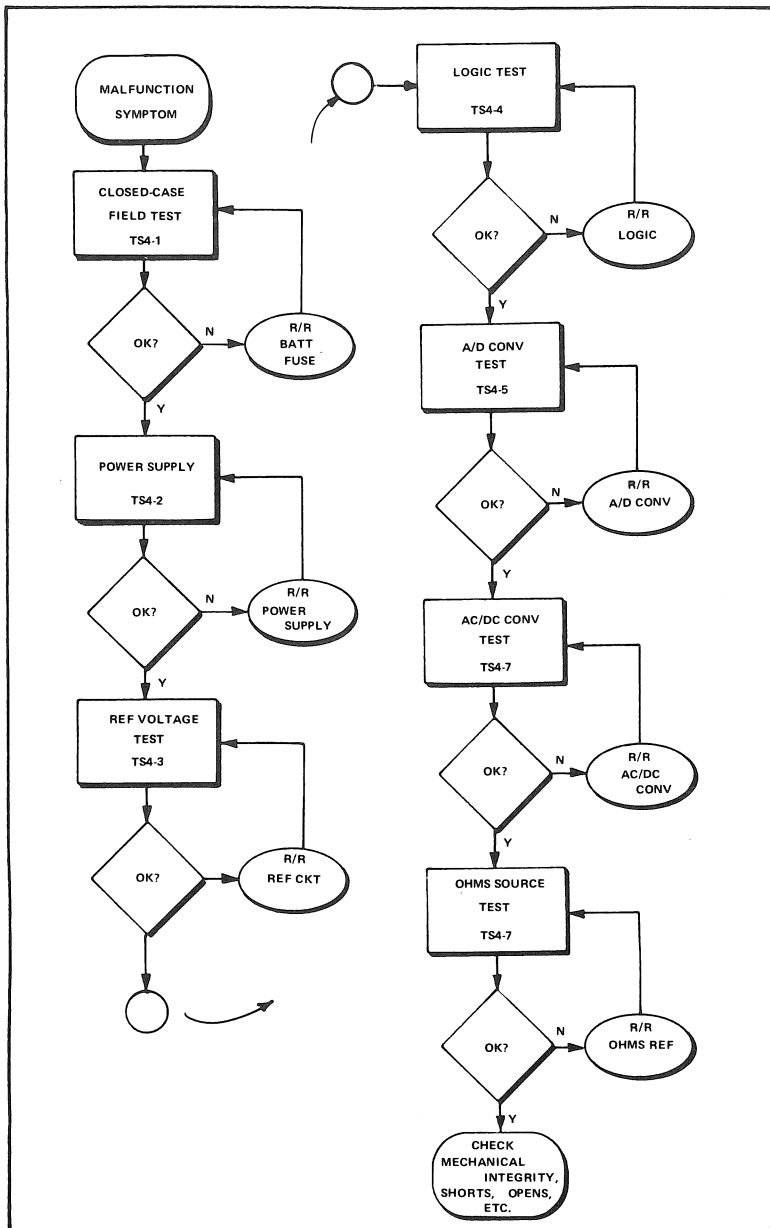
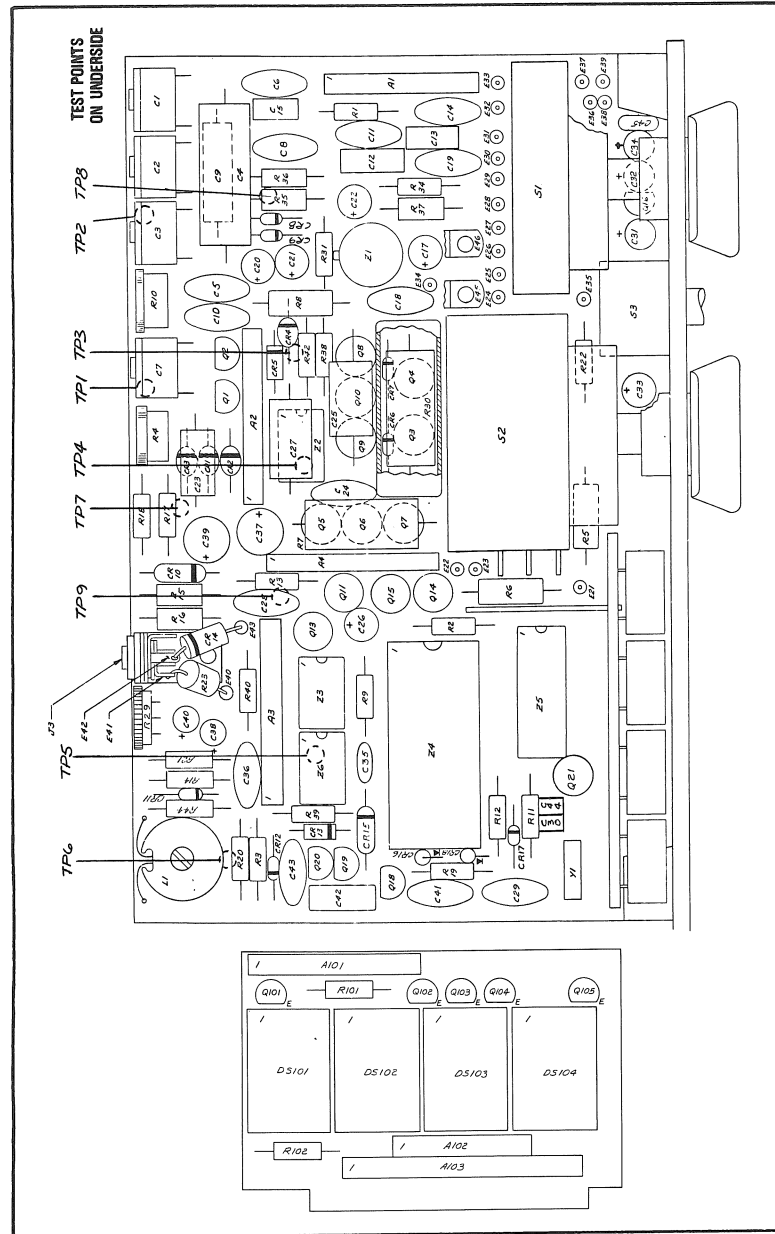

Fig. 4-1. Trouble Shooting Strategy
Fig. 4-2. Assembly Parts and Test Points
Should the meter performance indicate a possible need for repair, a well-defined strategy should be used to isolate the cause of trouble. This is illustrated in Figure 4-1. It indicates a sequence of steps in terms of standard symbols and defines a program of actions based on a philosophy of positive maintenance. The positive approach isolates to the faulty sections by verifying proper operation of the remaining instrument sections.
The test sequences identified in the chart of Figure 4-1 are described in step-by-step detail in the paragraphs that follow. In performing the tests detailed in these paragraphs, the maintenance technician is directed to make measurements at designated test points which have been placed at significant portions in the circuit. The special test points are identified by TP- and E-reference numbers, and their locations on the printed circuit board are shown in Figure 4-2. Other test points designated in the test procedure paragraphs may be pin terminals of circuit components, and technicians should refer to component data sheets for the pin terminal locations as well as to Figure 4-2. Use caution in attaching test leads to avoid accidental shorting of adjacent components. The use of EZ Mini Hook^R, or equivalent is suggested to aid in making good connections.
If the multimeter does not perform correctly after the tests of TS4-1 are satisfactorily completed, then it is likely that repairs to an internal assembly are required. The sequence of such tests is indicated in the overall strategy of Figure 4-1, and is identified by a TS number for further reference. Each test sequence paragraph includes the designation of test points, the indications of proper performance, the circuits that are checked when proper performance is observed, and the circuits that should be examined in greater detail when indications of improper performance are recorded. Refer to the fold-out schematic in the back of this manual for complete circuit details, and to Chapter 6 for replacement parts identification.
- (3.) Carefully withdraw the meter assembly from the case through the front. Place on insulating surface. Major assemblies are pointed out in Figure 4-2.